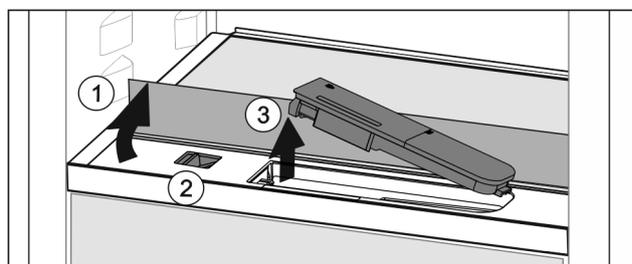

Fig. 35
- ▶ Lift the glass panel and fold to the back as far as it will go Fig. 35 (1).
- ▶ Slide the slider Fig. 35 (2) to the left.
- ▶ Remove the water tank Fig. 35 (3).